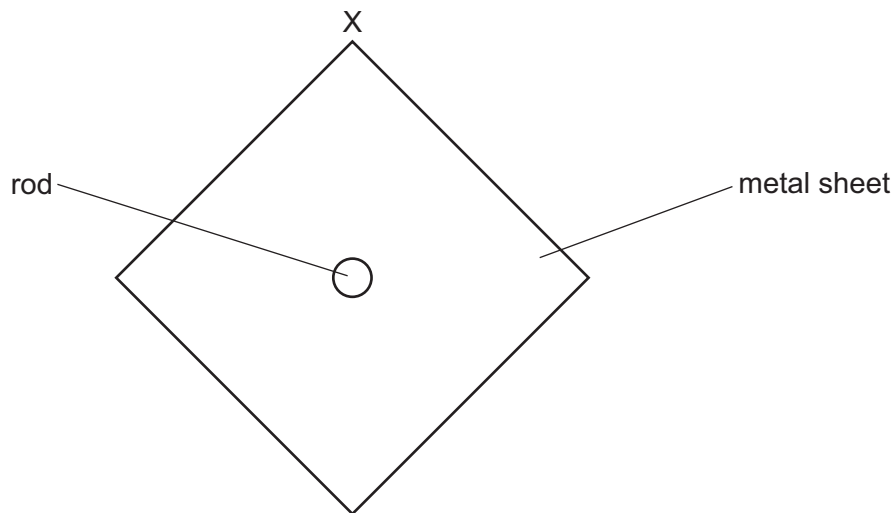

Fig. 2.2
- (b) When the rod is supported in such a way that it can rotate freely within its support, the sheet hangs in equilibrium with point X vertically above the rod, as shown in Fig. 2.2.
On Fig. 2.2, draw a line to indicate the range of possible positions for the centre of gravity of the metal sheet.